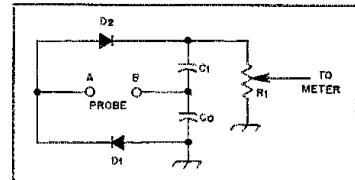

Fig. 2 — Suggested circuit presentation for more obvious voltage-doubler function.
I personally think many beginning hams would have difficulty understanding how this circuit "works." A more obvious voltage doubler with the same components is, in my opinion, that of Fig. 2. C_1 charges through D_2 when V_{AB} positive and C_0 charges through D_1 when V_{AB} negative. — Dr. Gethro Meek, DJ0TT, Brahmallee 33, XI, 2000 Hamburg 13, Germany.
□ In "Adding Receiver Incremental Tuning to the HW-104 or SB-104 Transceiver" (January *QST*, page 18, Fig. 2), the identification of the base and collector leads of Q2 are reversed.